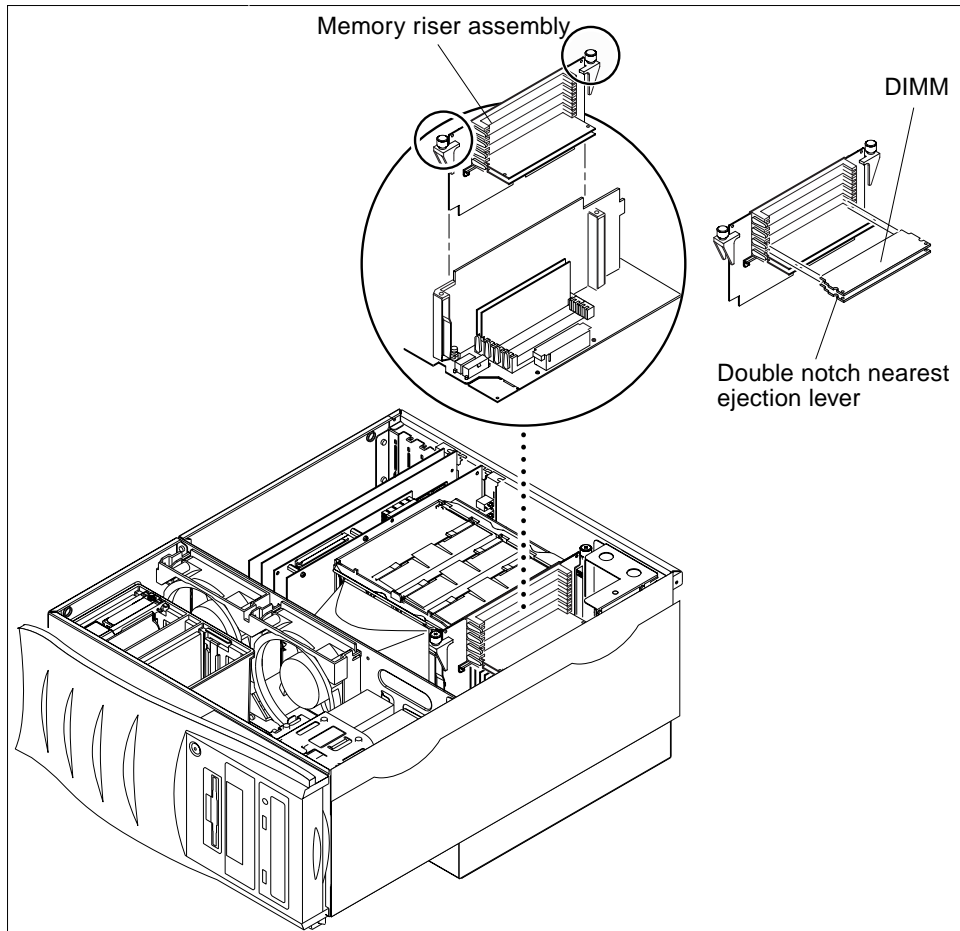
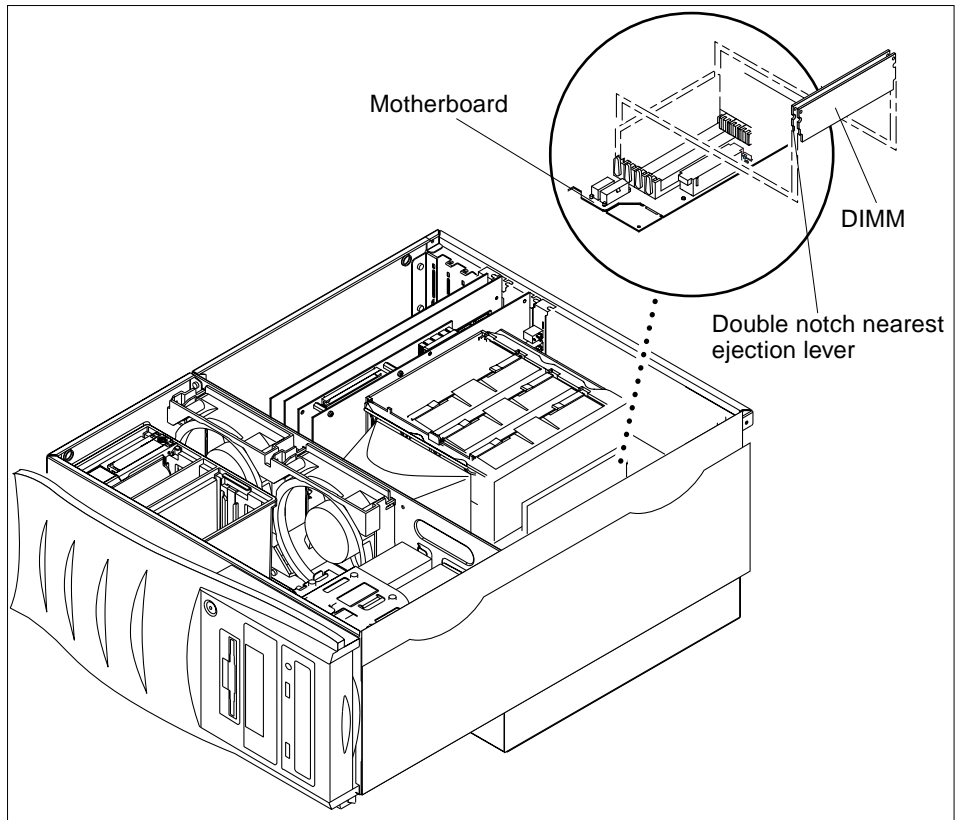

FIGURE 9-12 Removing and Replacing a DIMM (Sheet 1 of 2)
FIGURE 9-13 Removing and Replacing a DIMM (Sheet 2 of 2)
5. Remove a DIMM from either the motherboard or the memory riser assembly as follows: (FIGURE 9-12 and FIGURE 9-13):
4. Install the DIMM as follows (FIGURE 9-12 and FIGURE 9-13):